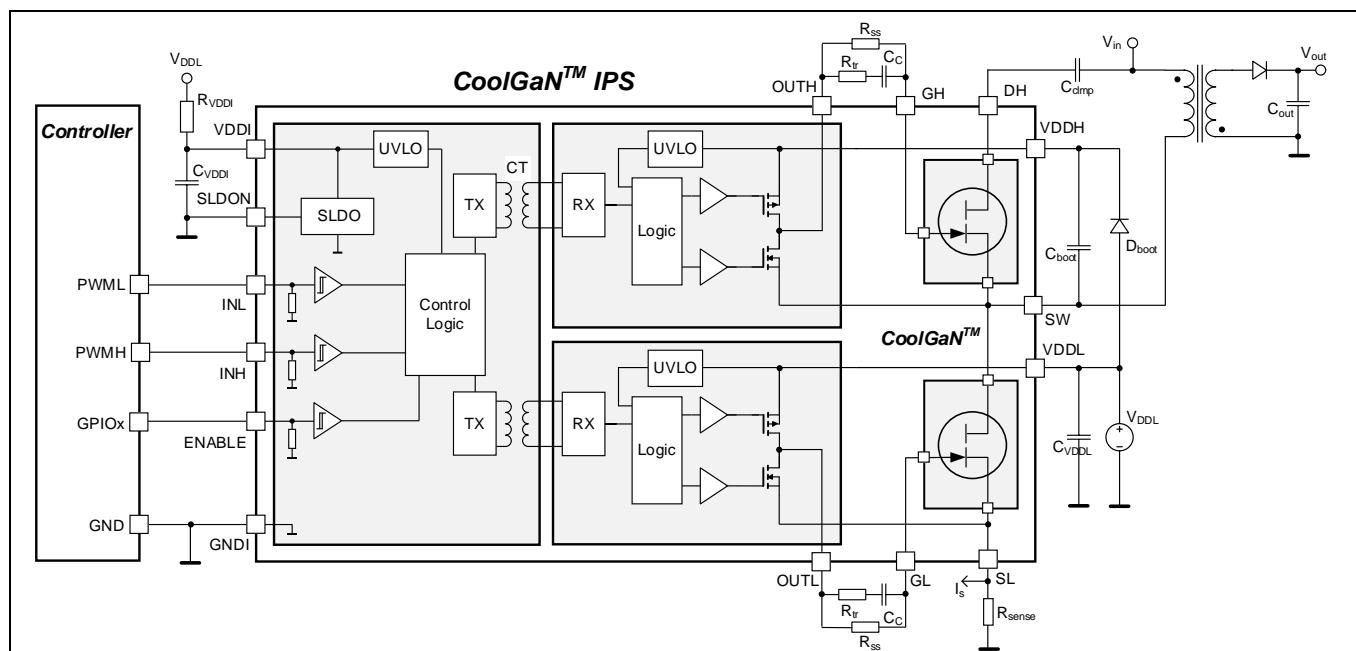
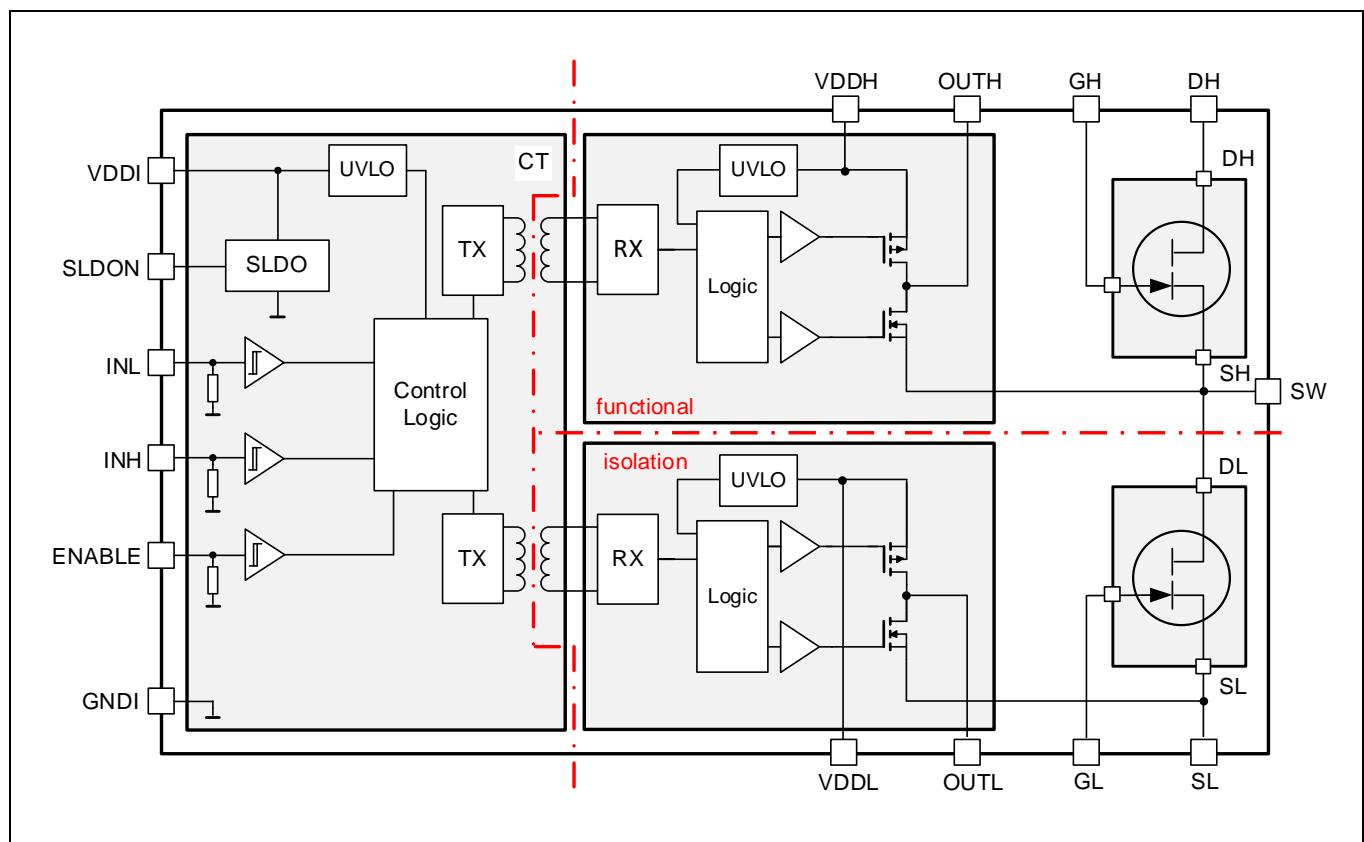

Figure 1 Typical application circuit (active clamp flyback converter)
Figure 3 Block Diagram IGI60F1414A1L
IGI60F1414A1L combines a half-bridge power stage consisting of two 140 mΩ (typ. $R_{ds(on)}$) / 600 V enhancement-mode CoolGaN™ HEMTs with dedicated gate drivers in a small 8 x 8 mm QFN-28 package. In the low-to-medium power area (example application in Figure 1), it is thus ideally suited to support the design of high-density AC/DC chargers and adapters, utilizing the superior switching behavior of CoolGaN™ HEMTs.
A simplified functional block diagram of the CoolGaN™ Power Stage is given in Figure 3. For the level-shifting function of the input signal to the high-side switch an on-chip coreless transformer (CT) is utilized. For symmetry reasons a CT is also included in the low-side path, resulting in both a galvanic input-to-output and high-to-low-side isolation. In addition, this CT separates the low-side gate driver reference (SL) from GNDI allowing to use a shunt resistor for current sensing as shown in Figure 1.
If no separate 3.3 V supply is available, the input side can also be operated with V_{DDL} (typically 8 V). Then the shunt LDO voltage regulator (SLDO) has to be enabled by connecting pin SLDON (pin#23) to GNDI. The SLDO regulates the current through an external resistor R_{VDDI} connected between V_{DDL} and pin V_{DDI} as depicted in Figure 1 to generate the required voltage drop. For proper operation it has to be ensured that the current through R_{VDDI} always exceeds the maximum supply current I_{VDDI} of the input chip. R_{VDDI} thus has to fulfil:
Both output dice have to be supplied by a voltage of typically 8 V related to the source of the respective GaN switch. In many applications the floating high-side supply V_{DDH} can be generated from the ground-related V_{DDL} by means of bootstrapping (components D_{boot} , C_{boot} and R_{boot} in Figure 1). A ceramic bypass capacitance C_{VDDL} of typically 100 nF has to be placed close to pin V_{DDL} .